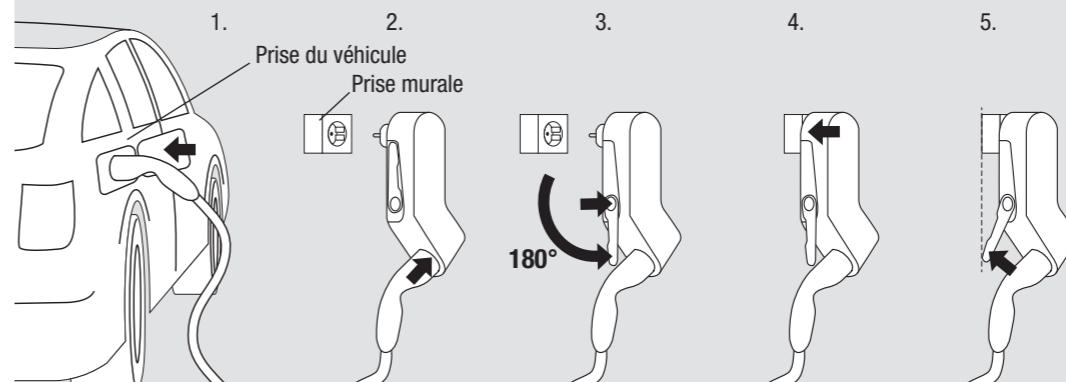

Fig. 2 : Séquence de charge
- Only operate the Mobility Dock vertically suspended and supported on a wall socket to avoid pulling on the wall socket (see fig. 2). Heavy loads can damage the Mobility Dock and/or the power socket.
- Do not plug the Mobility Dock into the socket until the charging plug is engaged in the type 2 outlet (C). Otherwise the wall socket may be damaged.
The Mobility Dock is a Mode 2 emergency charger for occasional, portable use. Permanent use only in a safe, motionless and vertical position. Operation only on mechanically and electrically suitable, wall-mounted sockets (see fig. 2, step 5)!